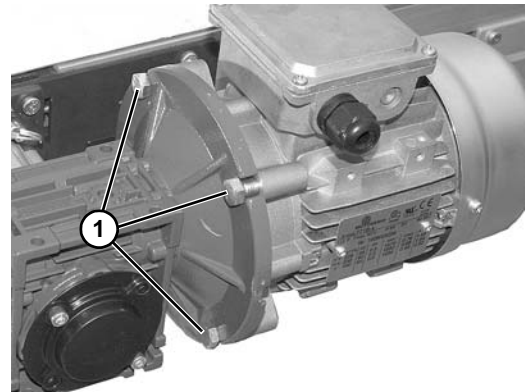

Figure 32
5. Install screws (**Figure 32, item 1**) and tighten to 65 in-lbs (7.3 N-m).